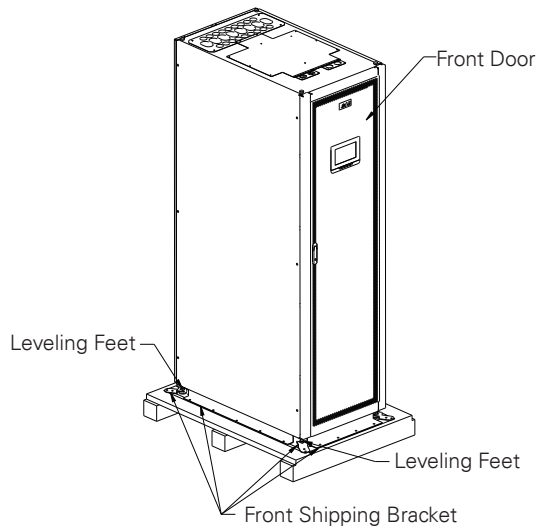
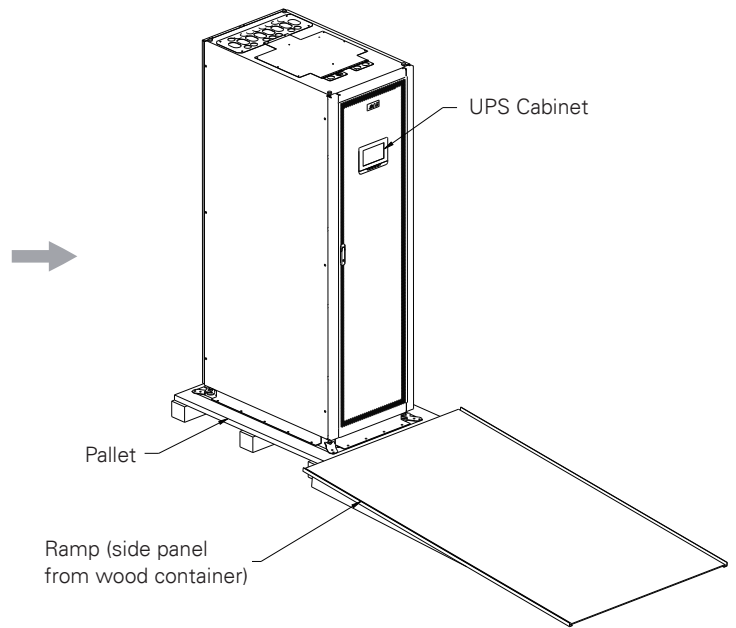

Figure 3-4. Removing the Front Shipping Bracket
Figure 3-5. Attaching the Ramp to the Pallet
2. Remove four bolts securing the front shipping bracket to the cabinet and four bolts securing the bracket to the pallet (see Figure 3-4). If installing the cabinet permanently, retain the shipping bracket and securing hardware for later use.
3. Attach the ramp to the front of the pallet (see Figure 3-5):
11. Using the retained hardware, reinstall the shipping brackets removed in Step 2 and Step 5 to the front and rear of the UPS cabinet with the angle facing outward (see Figure 3-4 and Figure3-5).